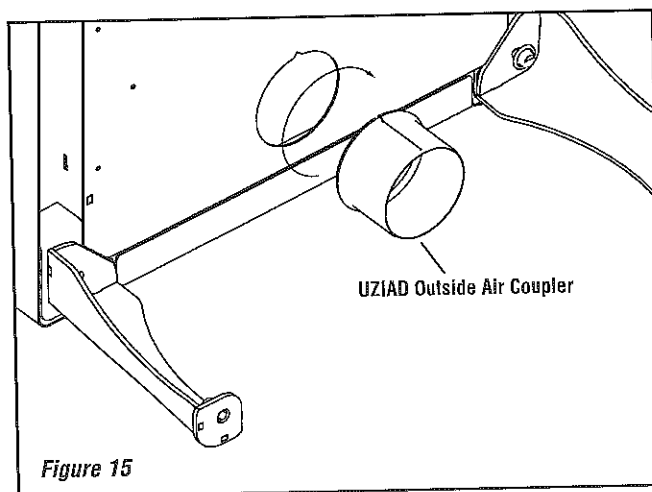

Figure 15
### Through the Wall Outside Air Kit Installation (refer to Figures 15, 16 and 17)
- Install the coupler onto the existing collar on stove (see Figure 15).